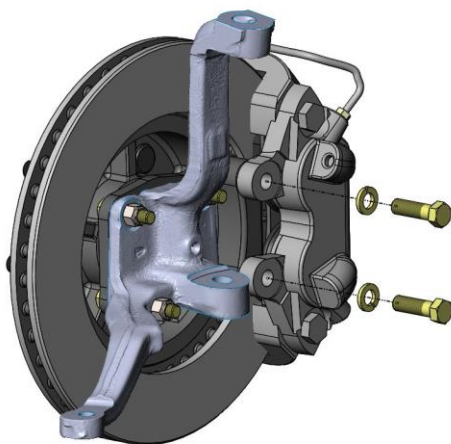

Figure 5a – Caliper Bolt Installation
7. Mount the caliper to the caliper mounting bracket. With the pads installed in the caliper, slide the caliper over the rotor and line up the mounting ears of the caliper with the holes in the caliper mounting bracket. Using the provided 7/16"-14 x 1.500" Grade 8 Hex Head Bolts and 7/16" Lock washers, tighten the bolts at this time but do not torque. **NOTE:** When installing the calipers, make sure the brake bleeders are pointing upward. See Figures 5a and 5b on the next page for reference.